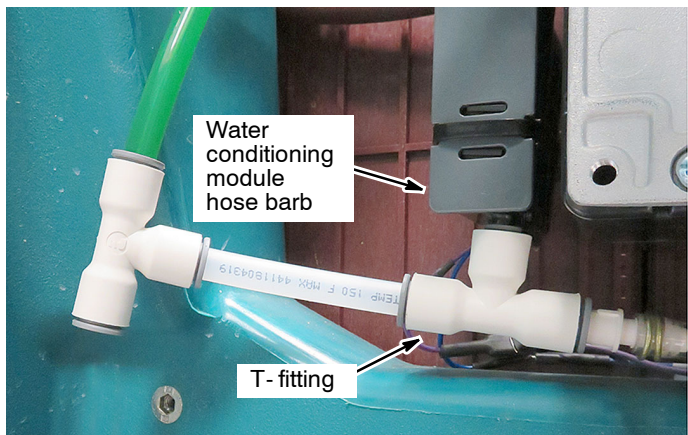

Fig. 11
10. Connect the T-fitting to the water conditioning module hose barb as shown (Figure 11).